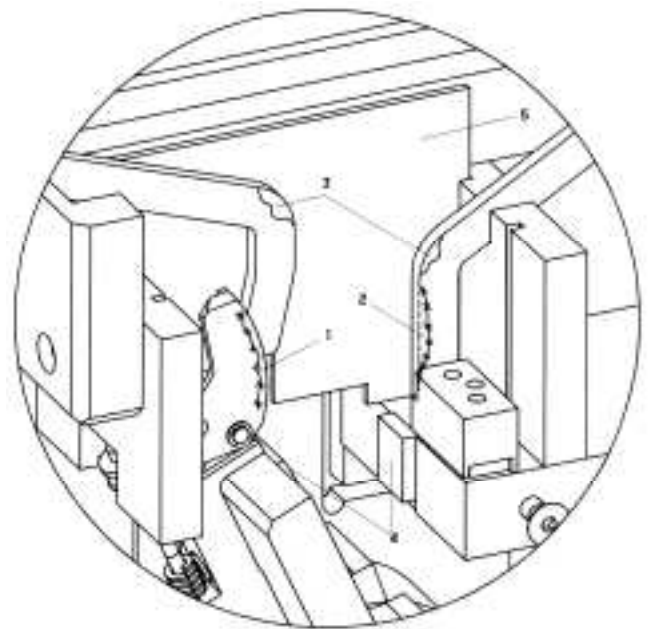

Fig. 44 Checking the contact system
- [Fig. 44]. The material burn out on the protective walls (5) shall not exceed 1 mm [0.04 in] at any place.
- [Fig. 44]. The arc runners should not be burned more than 30 % of its total cross section. Pay particular attention to the area around arc runner bend (3) and at contact point with arcing contact (2).
- [Fig. 44]. Wear of the arcing contact (1) must not exceed 2 mm [0.08 in] of its depth. Replace the arcing contact in that case. If contact erosion exceeds 4 mm [0.16 in], major contact system failure is possible.
- [Fig. 44]. The main contacts (4) shall not show any particular signs of material erosion, since the arc is ignited between the arcing contacts. It means, that for rated and overload currents there should be no erosion of main contacts.